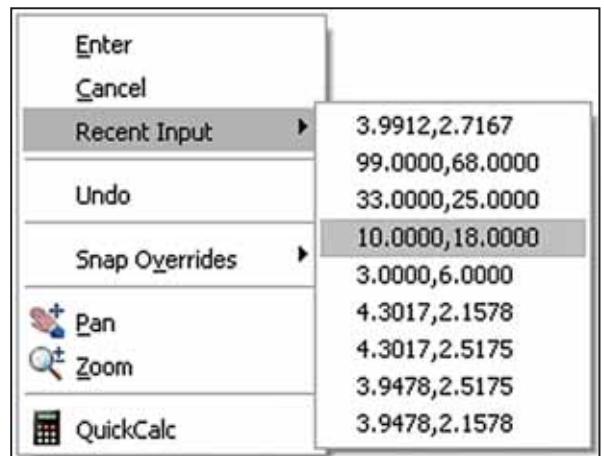

Figure 6. Attach your palettes to keep them handy but out of the way.
- Attach your palettes to an anchor tab base on the left or right side of the drawing area. The palette rolls open and closed as the cursor moves across it, keeping them out of the way but available for quick access. Simply right-click on the name bar and select Anchor left or Anchor right from the shortcut menu (Figure 6).